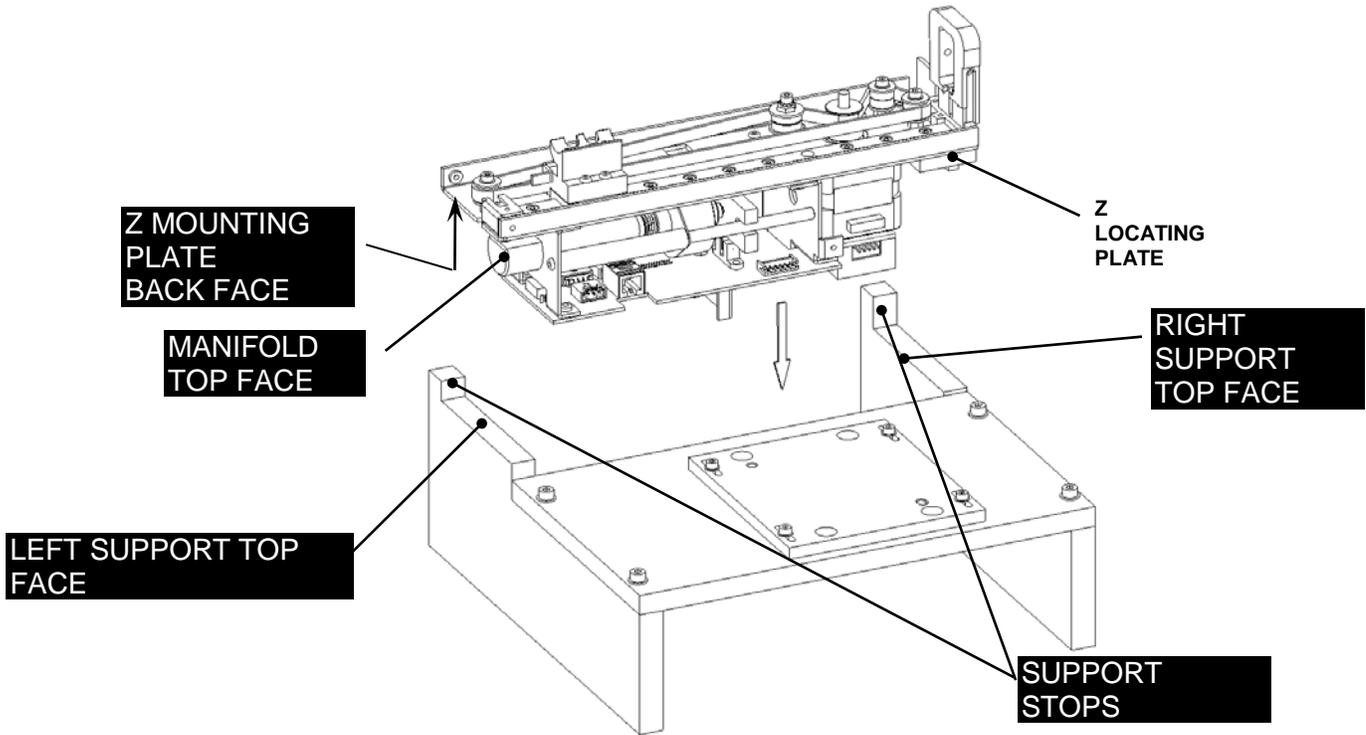

Figure 7-32: Mounting Drive Assembly on Belt Tensioning Fixture
2. Remove the Force Gauge assembly from the Belt Tensioning Fixture (DS2FIX009) and position the Z Drive onto the fixture so that the back face of the Z Mounting Plate is resting on the left support top face and the Z Locating Plate is resting on the right support top face. Then gently slide the Z Drive over until the manifold top face is touching the inside face of the left support, and the side face of the Z Mounting Plate is touching the support stops (Figure 7-32).